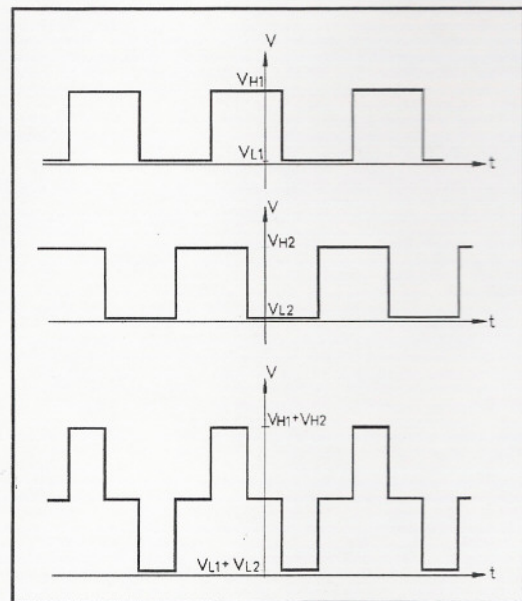

Figure 15: Encoder Signals
- Using an oscilloscope, check the signals (P_0 and P_1) received from the encoder's two phototransistors. Figure 15 shows the wave diagrams which emanate from the two channels of the encoder (P_0 and P_1) with respect to the time axis. The top two signals should be clean square waves: